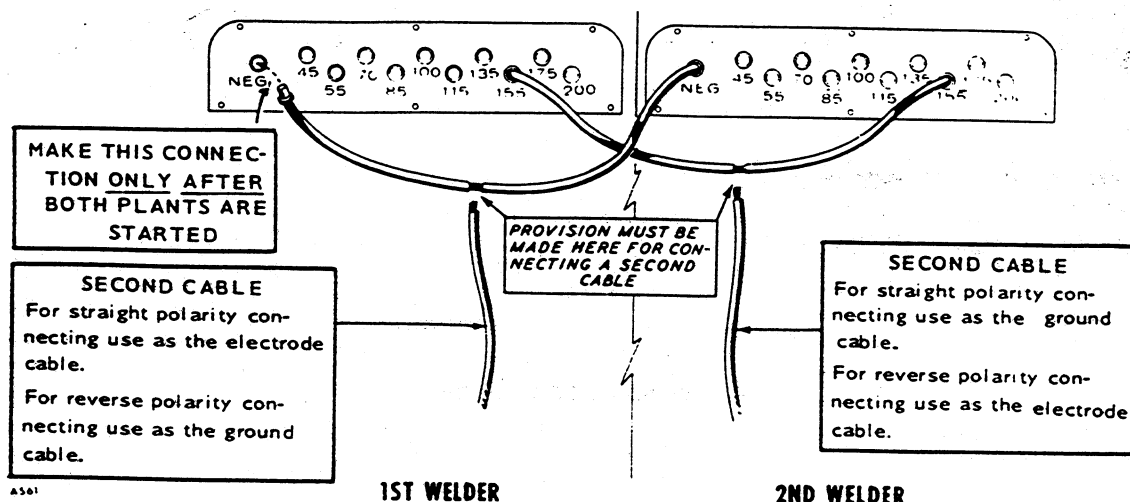

FIGURE 5. CONNECTIONS FOR WELDING IN PARALLEL
Two welders can be connected in parallel if the welding amperage requirements are greater than those provided by one welder (see Figure 5).
- Connect a cable between the preselected **IDENTICAL** current jack receptacles of the welders. This cable (Figure 5) must have some means of attaching a second cable by splicing, clamping, etc., which will ensure a tight connection.